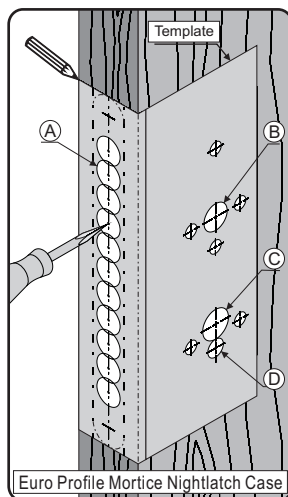

Fig. 1
- 4- Mark position of lever handle at HOLE B and at HOLES C & D (euro cyl), then mark bolt through fixing positions for lever rose and cylinder escutcheon, or backplate. See Fig 1.